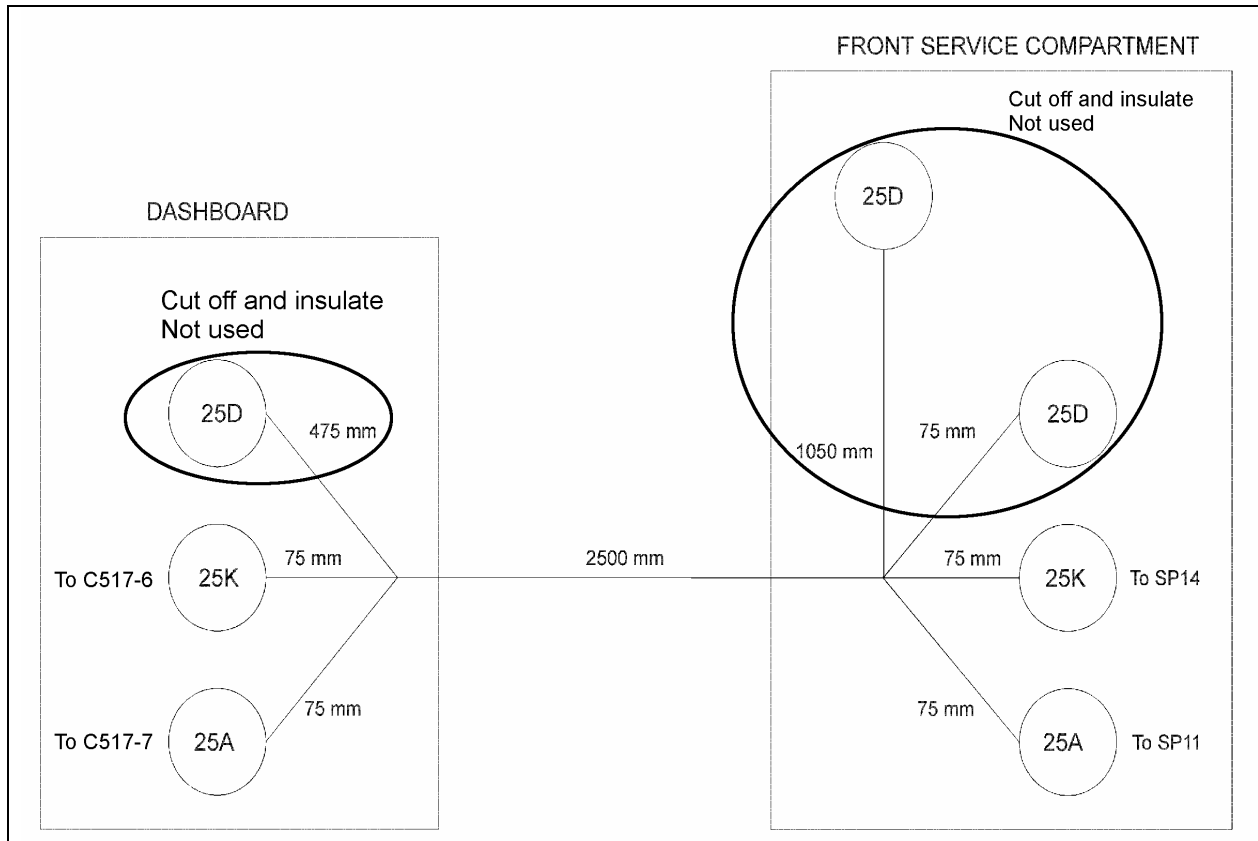

FIGURE 12: INSTALLATION OF CABLE HARNESS #065150
3. Use cable harness #065150, connect wire 25A to connector C517, pin 7 (insulate old wire) and connect wire 25K to connector C517, pin 6 (insulate old wire) (refer to figure 12);
4. Cut off and insulate wires 25D as shown in figure 12;
6. Connect wire 25A to spare wire SP11 and connect wire 25K to spare wire SP14 as shown in figure 12. These spare wires are located near connector C3 in the front service compartment;